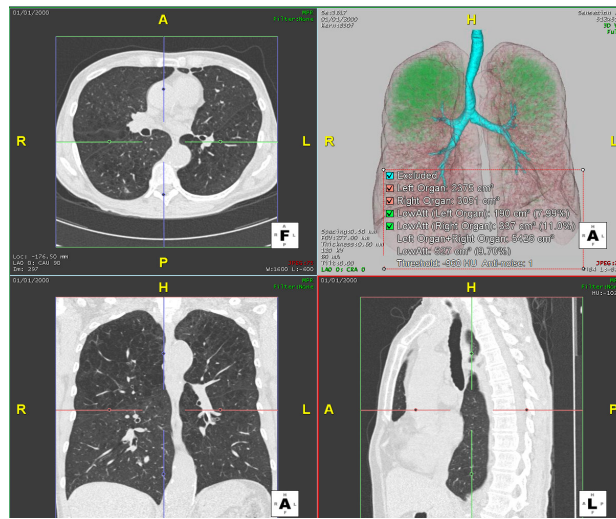

Figure 3-81: Completed Workflow
3. In the LowAtt tool panel, click **Auto Run**. Wait until the results are displayed on the 3D image (see Figure 3-81).